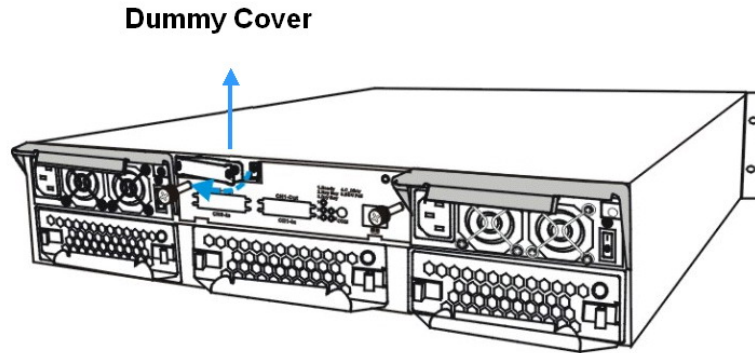

Figure 2-3: Removing the BBU Slot Dummy Plate
- Step 2. Once the retention screws are loosened, wedge a screwdriver between the back of the dummy plate and the interior wall of the subsystem enclosure. Gently lever the dummy plate out of the enclosure. (See *Figure 2-3*)